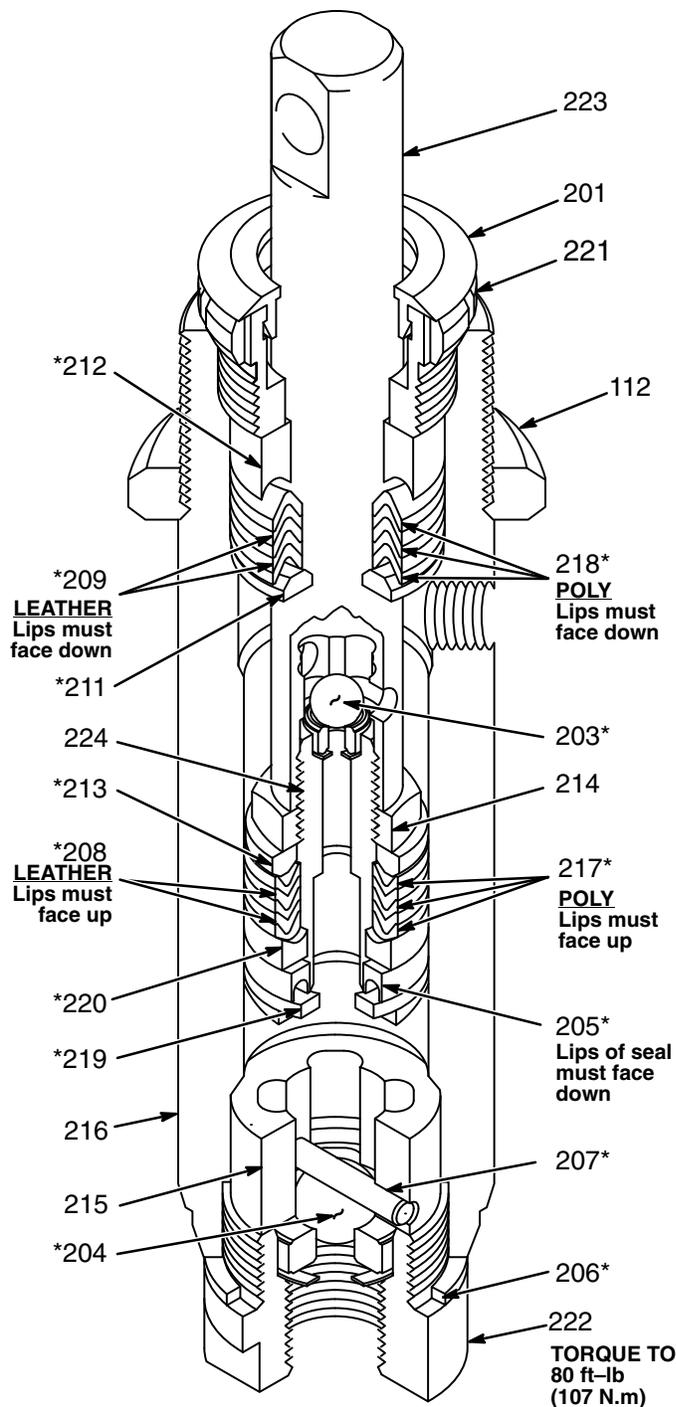

Fig 19-1
### Disassembly. See Fig 19-1, except where noted.
- B. Clean all parts thoroughly. Check the outside of the piston rod (223) and the inside of the cylinder (216) for scoring or scratches, which prevent the packings from sealing properly. Replace all worn parts.
- the lips of the U-cup seal (205) face down.
- C. Alternate polyethylene and leather packings as shown in Fig 19-1, starting with the polyethylene packings. Incorrect installation damages the packings and results in pump leakage. Notice that:
1. Stack these parts one at a time onto the piston valve (224): backup washer (219\*), U-cup seal (205\*) *lips down*, and female gland (220\*), alternate the polyethylene and leather v-packings (217\*, 208\*) *lips up*, and then the male gland (213\*). See Fig 19-1.
5. Stack these parts one at a time into the top of the cylinder (216): male gland (211\*), alternate the polyethylene and leather v-packings (218\*, 209\*) *lips down*, and then the female gland (212\*). See Fig 19-1.
6. Loosely install the packing nut (221) and plug (201).
7. Insert the oiled piston rod (223) through the bottom of the cylinder.
8. Assemble the intake valve. Use a new gasket (206\*). Screw the intake valve into the cylinder and tighten to 80 ft-lb (107 N.m). See Fig 19-1.
9. Screw down the cylinder locknut (112) until it is finger tight at the bottom of the external cylinder threads. See Fig 19-1.